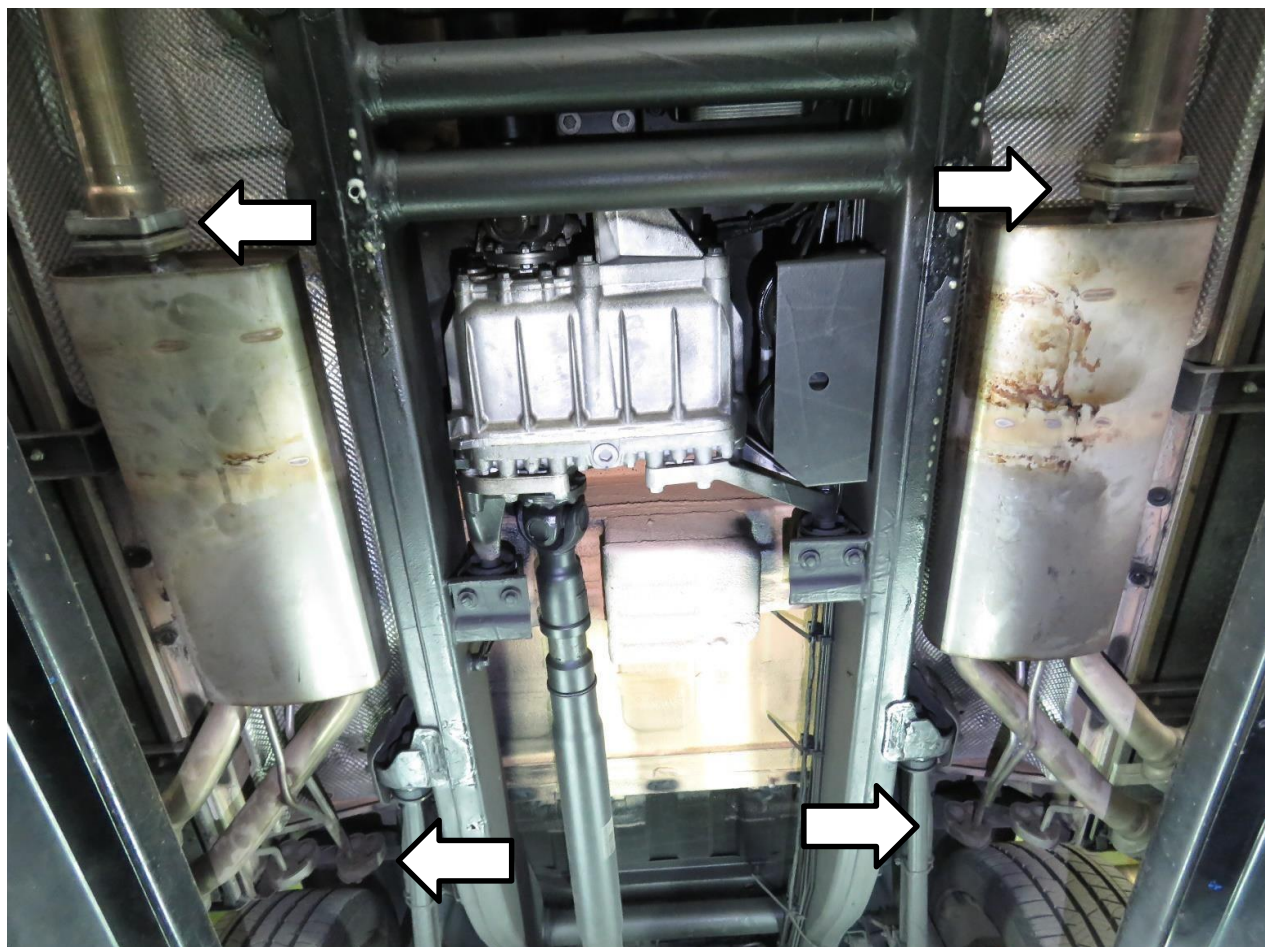

Fig. 1
1. Loosened the cat-back section screws and removed, Lubricated bushes then removed the cat-back assembly (Fig. 1).